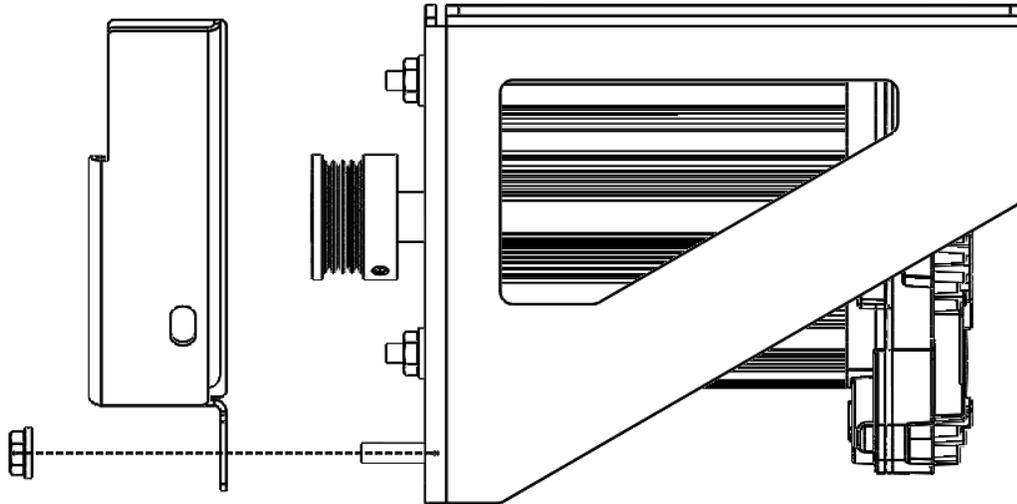

Figure 11: Band Guard Assembly
3. Remove band guard by removing (2) bolts as shown in Figure 11.
10. Install band guard onto motor bracket as shown in Figure 11. Torque bolts to 80 in-lbs.